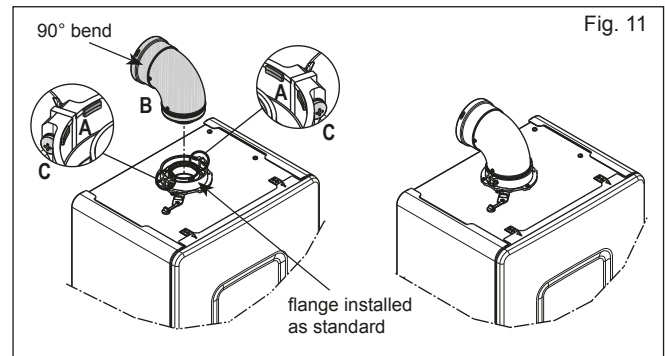

Fig. 11
NOTE - fig. 11: the appliance incorporates a 'click-fit' flue connection. Ensure that both screws 'C' on the 'click-fit' have been slackened off. Ensure that the bend is correctly aligned with the connector and insert the flue bend into the connector until it clicks into position (this is when the tabs at points 'A' are located in the groove of the flue bend. Both screws (C) should now be tightened.
NOTE - fig. 11: the appliance incorporates a 'click-fit' flue connection. Ensure that both screws 'C' on the 'click-fit' have been slacked off. Ensure that the bend is correctly aligned with the connector and insert the flue bend into the connector until it clicks into position (this is when the tabs at points 'A' are located in the groove of the flue bend). Both screws (C) should now be tightened. The additional bends & extensions have push-fit connections, care should be taken to ensure that the correct seal is made when assembling the flue system. Connect the required number of flue extensions or bends (up to the maximum equivalent flue length) to the flue terminal (see fig. 11-14). The flue system should have a 3° rise from the boiler to outside, to ensure any condense fluid that forms, is allowed to drain back to the appliance.